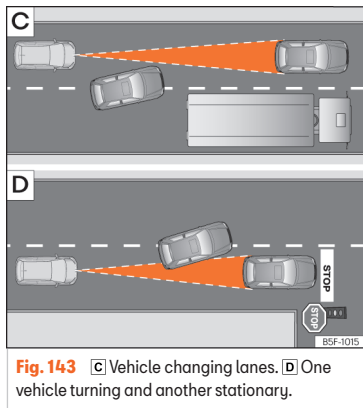

Fig. 143 **C** Vehicle changing lanes. **D** One vehicle turning and another stationary.
- Vehicles that move into your lane, a short distance from your vehicle »» Fig. 143 [C].
The ACC does not react to stationary vehicles. If, for example, a vehicle detected by the ACC turns or moves over and there is a stationary vehicle in front of it, the ACC will not react to the second vehicle »» Fig. 143 [D].